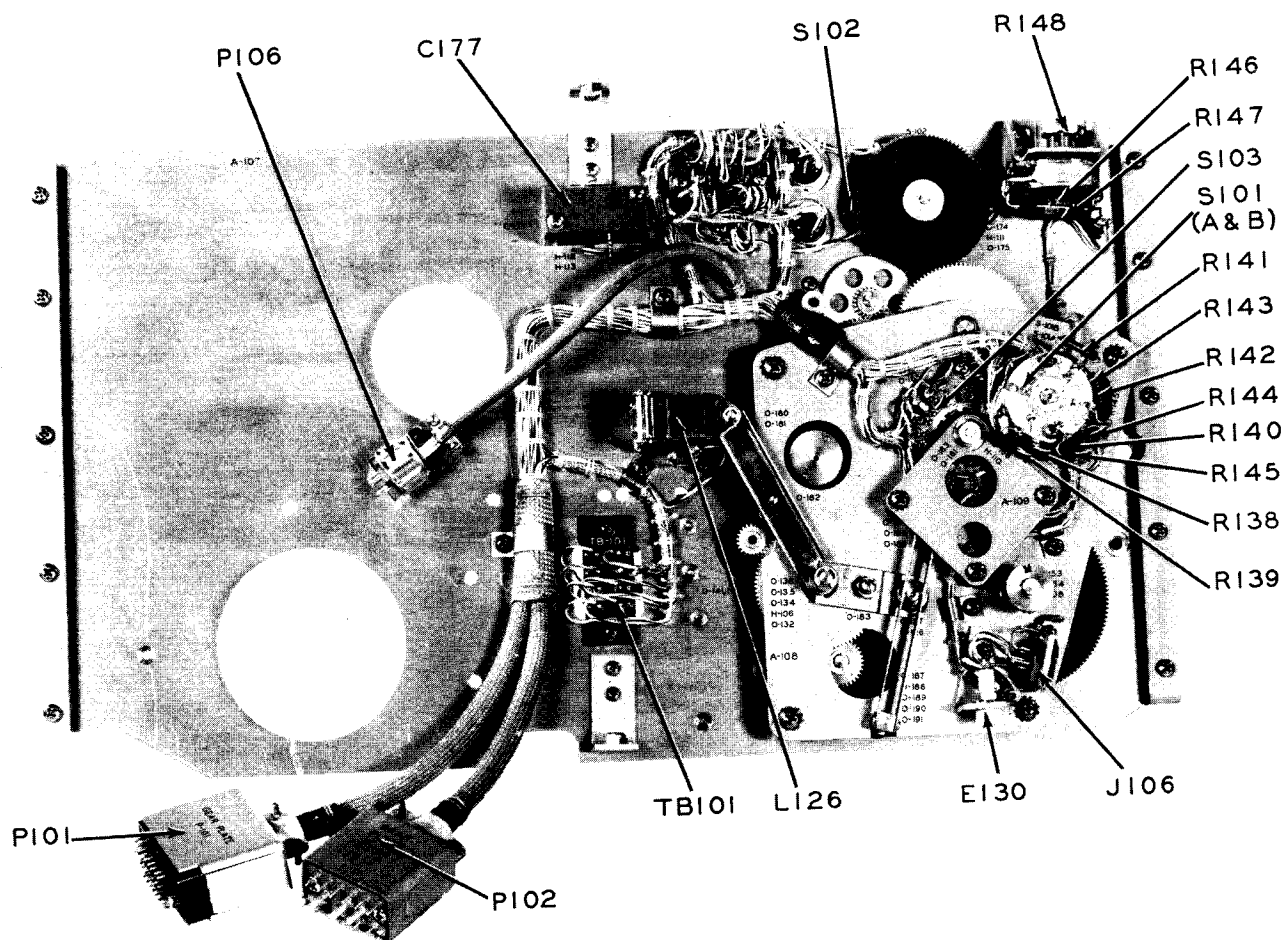

Figure 87. Gear plate, front.
- (o) Replace the bearing shaft support plate A109 (Fig. 87) and secure with the three lock washers and mounting screws. This assembly procedure need not be executed until the oscillator position switch S103 is adjusted (par. 132.1e, following).
- (1) Turn oscillator drive gear 0155 counterclockwise (viewed from the front) until the gear is firmly against the stop. The shaft of the oscillator drive gear 0155 may be turned with the stop washer collar 0153 if clutch actuator L126 arm is held down in the energized position.
- (2) Loosen the set screw in oscillator position switch sleeve 0163. It may be necessary to remove the bearing support plate A109 (par. 132.1b(1)(a) and (b), above) to gain access to the set screw.
- (3) Set oscillator position switch S103 so that the notch of the exposed side of the rotor aligns with the fourth terminal counterclockwise from the rotor-contacting terminal. (The fourth terminal counterclockwise from the rotor-contacting terminal is terminal 19 of the exposed side of switch S103.)
- (4) Tighten the set screw in oscillator position switch sleeve 0163.
- (5) Replace the bearing shaft support plate A109 (fig. 87) and secure with the three lock washers and mounting screws.
- (6) Replace shim H110 and E-retaining ring 0166 on oscillator position gear 0164 shaft.